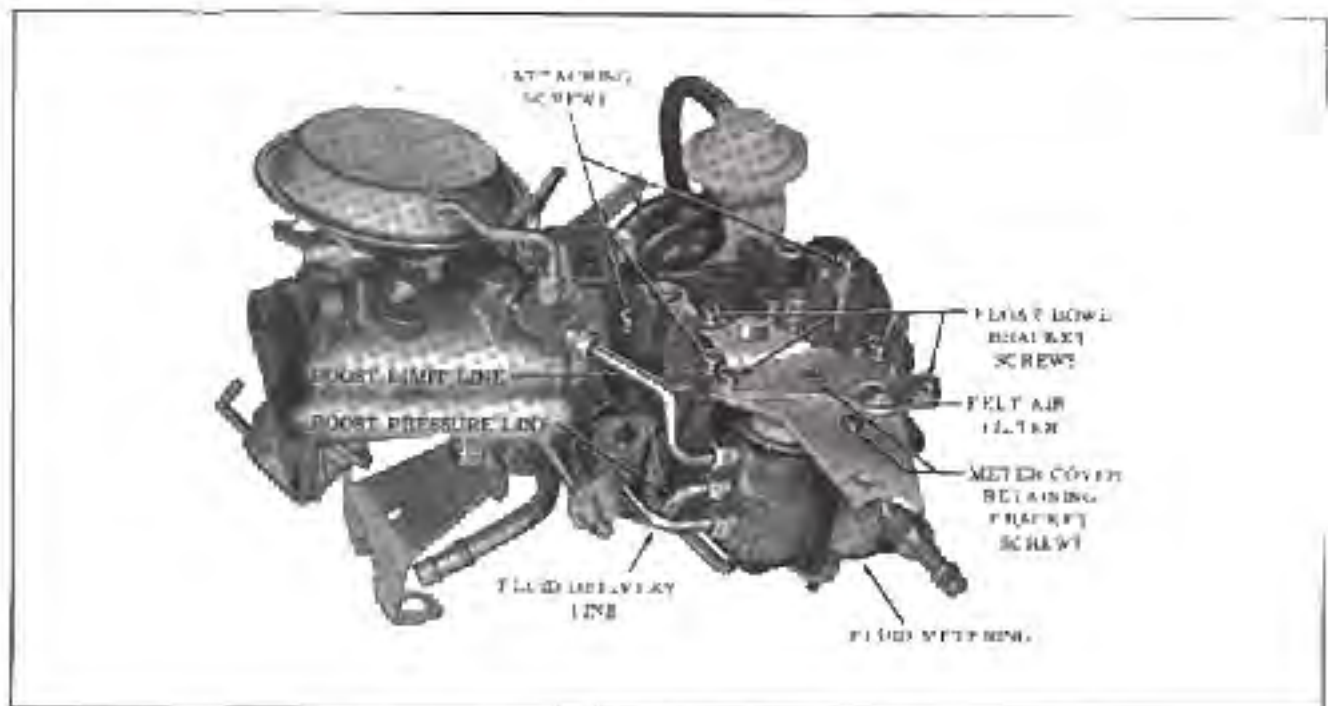

Fig. 9-111 Carburetor Assembly
### **Remove and Install (Fig. 9-111)**
8. Connect lines in their respective positions before attaching fluid meter to carburetor (Fig. 9-111). Connect middle line first, making sure all tubes are in line with holes before tightening fittings.